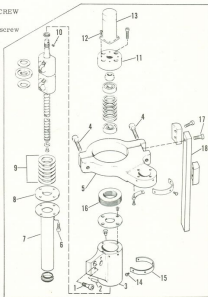

Figure 11. Ballscrew Feedback (Exploded view)
33. CLEANING AND INSPECTING BALLSCREW FEEDBACK AND TACHOMETER (Figure 11)
Legend - Figure 11